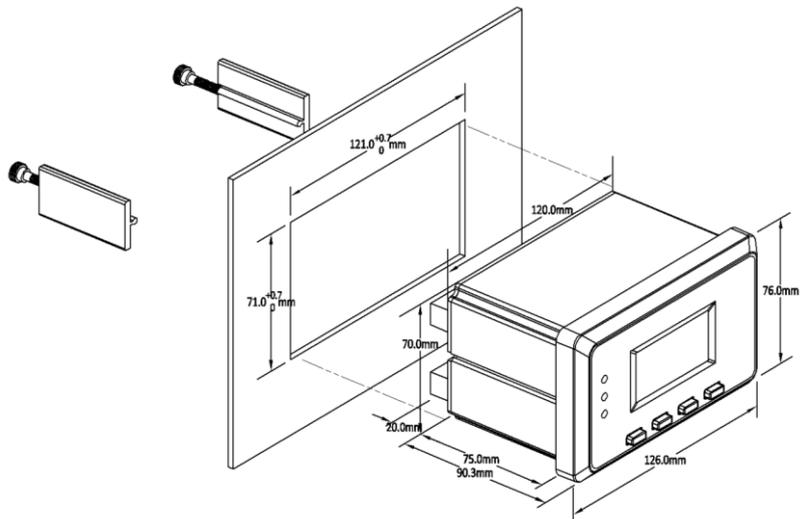

Figure 2-17 Panel Cutout Installations
- Fit the relay through a 121mm x 71mm cutout as shown in Figure 2-17.